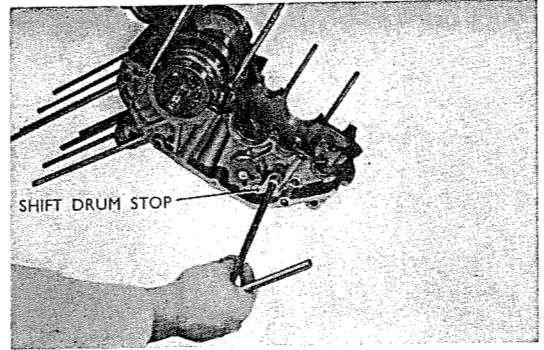

Fig. 3.125 Removing shift drum limit
5. Remove the  $6 \times 18$  bolt of the shift drum limit pressing the shift drum limit stop plate and remove the limit. (Refer to Fig. 3.125)